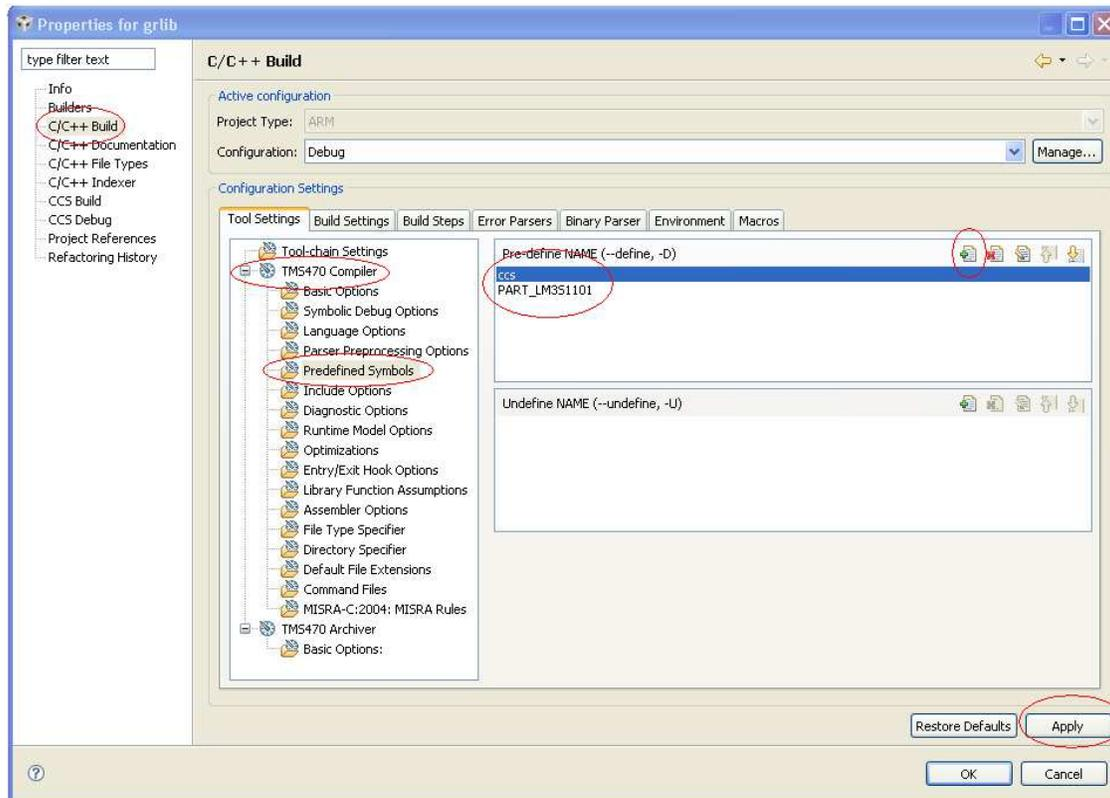

Figure 33. Properties for grlib (C, C++ Build)
7. Select C/C++ Build under the Tool Settings tab → select the Runtime Model Options in the TMS470 Compiler field. Select options (on/off) as shown in red circles in Figure 33 → click on the Apply button.